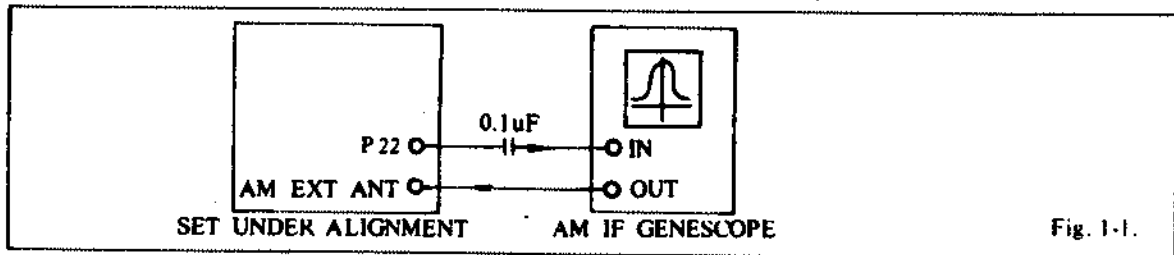

Fig. 1-1.
- Set up the test equipment as Fig. 1-1 and set the IF genescope output level to 80dB(10mV).